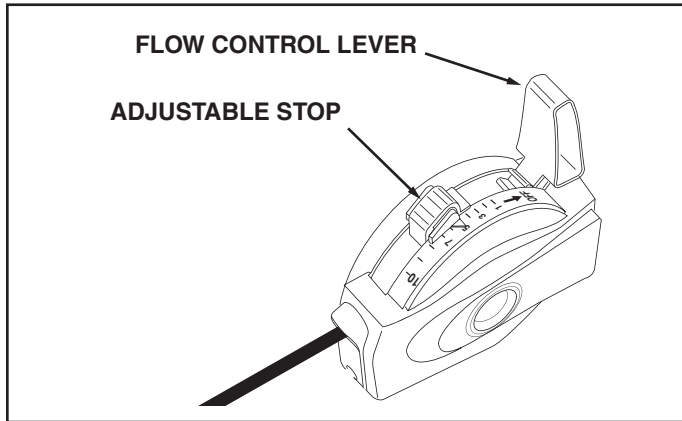

FIGURE 14
2. Move the Flow Control Lever forward until it snaps into the Adjustable Stop, locking the lever at the desired setting. See figure 14.